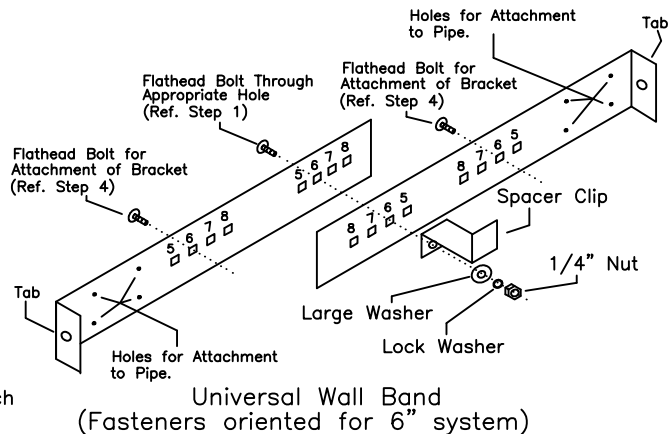

Fig 1
- Place the two halves of the UWRSA Band as shown in Fig. 1. Insert flat head bolts through the holes marked with the diameter of the chimney being installed. (Ex. - for a 6" chimney, place the flathead bolts through the holes marked 6".) The flat head of the bolt should be oriented opposite the direction the formed tabs are pointed. (See Fig. 1)
- Place the Spacer Clip on the bolt used in the middle of the assembly and secure with washers and nut. (See Fig. 1)
- Secure length of pipe to assembly by using two 1/8" x 1/2" stainless steel screws (provided) through two of the small attachment holes of the Universal Band shown in Fig.1. Seal the screws with silicone sealant.